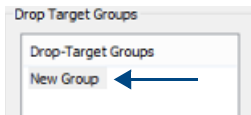

FIG. 218 Drop-Target Groups dialog - Drop Target Groups window
- The new Drop Group is listed in the *Drop Target Groups* window of the *Drop-Target Groups* dialog (FIG. 218):